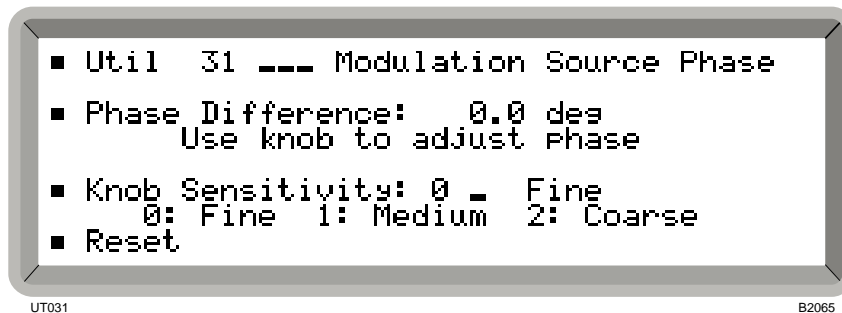

Fig. 4-23 Modulation source phase menu
- (1) Select the *Util 31: Modulation Source Phase* menu. This shows the currently selected phase difference setting (see Fig. 4-23).